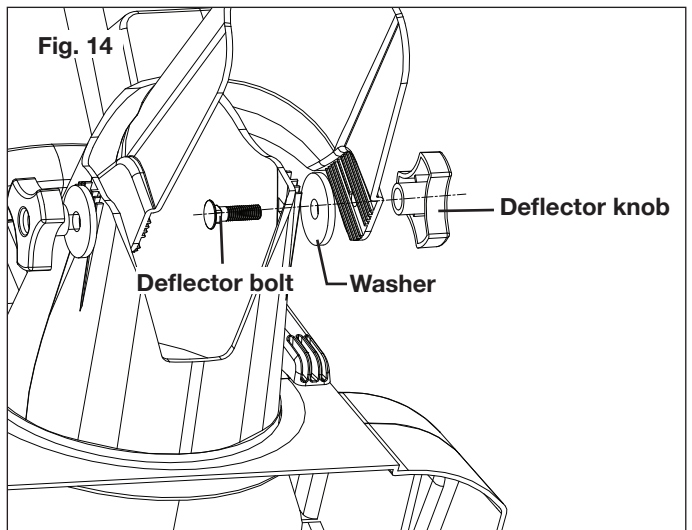

Fig. 14
- Position the chute deflector over the discharge chute and align them with the deflector bolts, washers and the deflector knobs (Fig. 14).